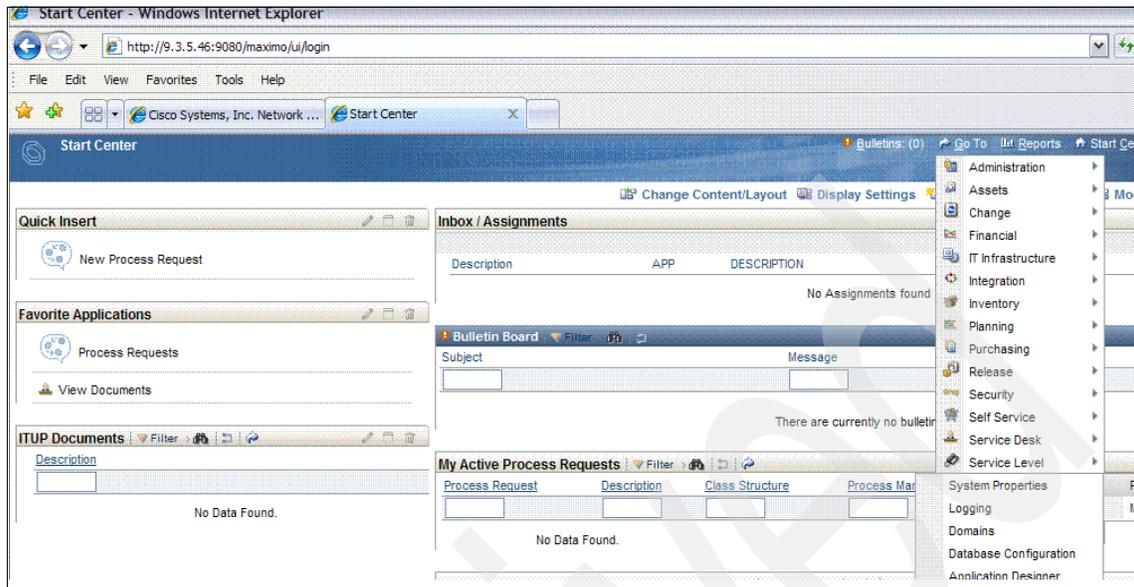

Figure 5-1 Start center window
2. In the Start Center window, click **Go To** → **System Configuration** → **Platform Configuration** → **System Properties**, as shown in Figure 5-1 on page 174.